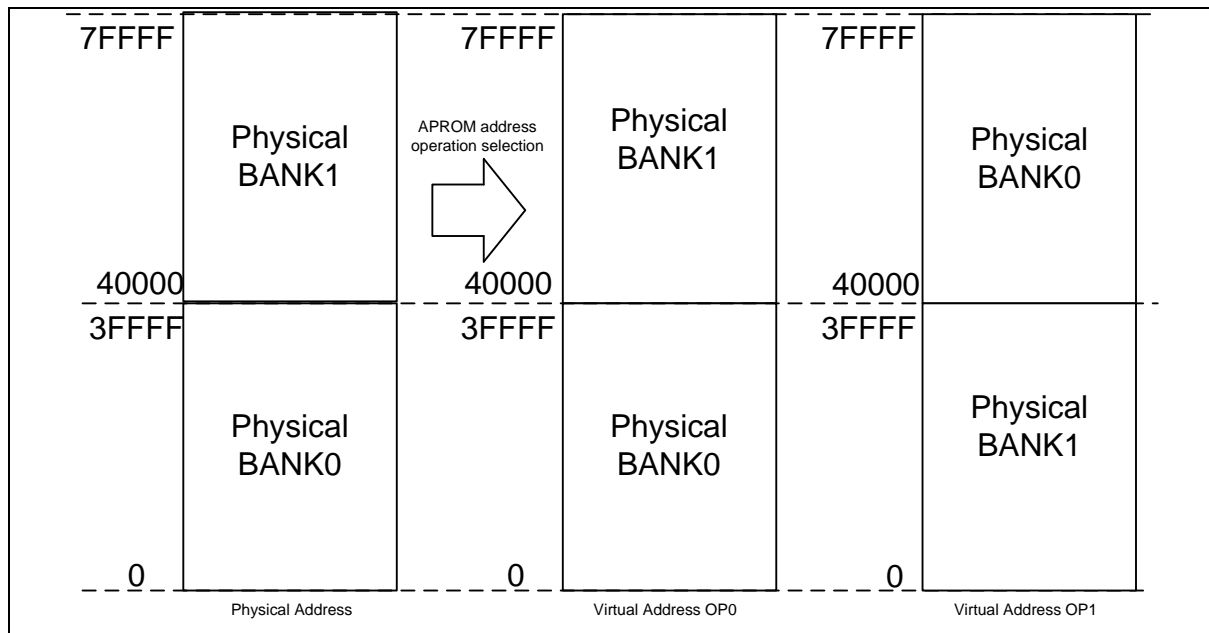

Figure 6.4-5 Address Operation Model
- From CPU viewpoint, virtual address concept was adopted. APROM memory space is separated into 2 segments (banks). As runtime stage, the virtual address depends on what address operation model (OP0, OP1) is, shown in Figure 6.4-5.